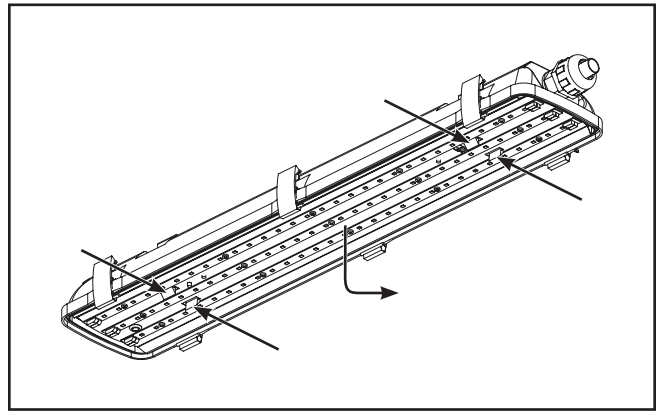

Figure 7.
8. Without touching LED boards, squeeze gear tray clips inward and gently lower gear tray until it hangs from its installation tethers. (Figure 7)